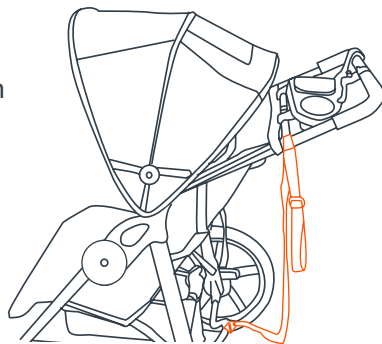

Fig. 16b
- The safety strap must remain connected to the rear lower frame cross member at all times. This location is intended to prevent the stroller being tipped backward in the event that you do fall to the ground. The safety strap includes an attachment for storage, on the left side of the stroller, when not in use (Fig. 16b).